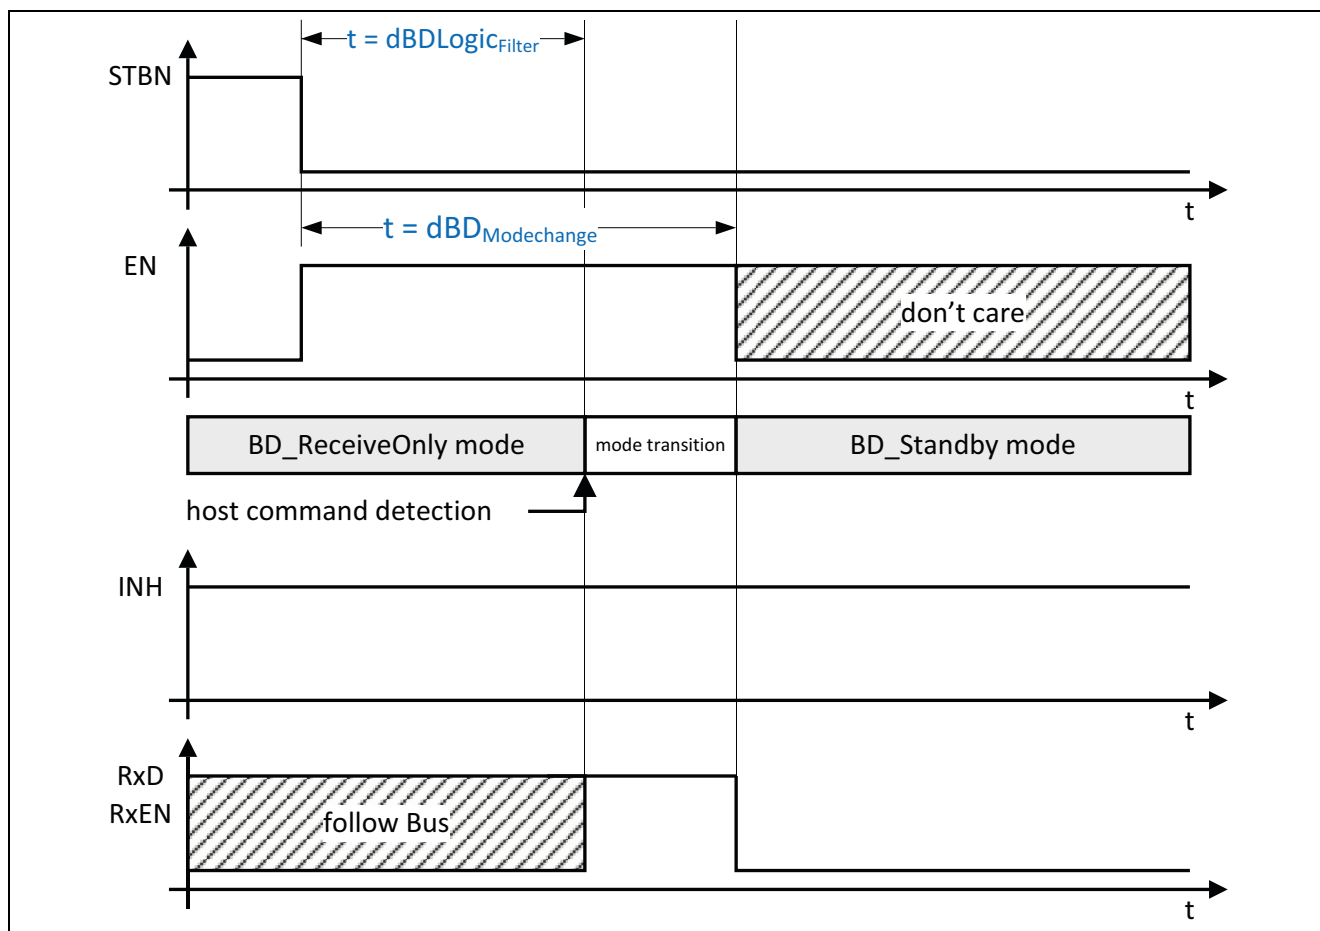

Figure 34 Changing over to BD\_Standby, with an active wake-up flag
- 10) The BD\_GoToSleep command cannot be executed while the wake-up flag is active (see Figure 34). The TLE9221SX changes over directly to BD\_StandBy mode.
Applying the BD\_GoToSleep host command to the TLE9221SX, while the wake-up flag is active, changes the operating mode directly to BD\_Standby mode. The RxD and RxEN outputs are set to “low” and indicate a previous wake-up event (see Figure 34 and Table 14).